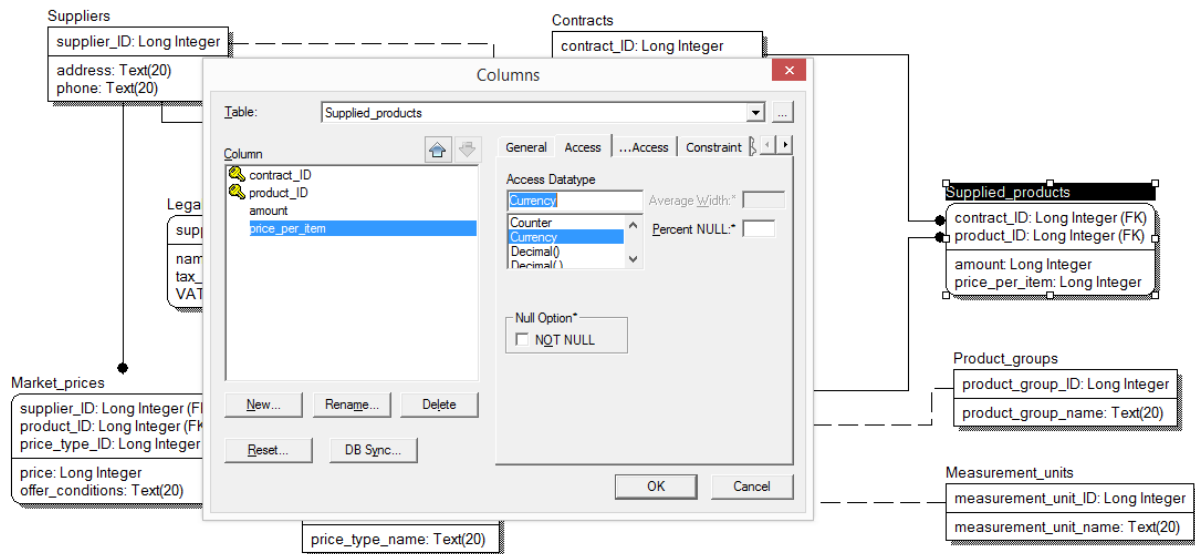

Figure 1
- 2) Select “price_per_item” field and select data type “Currency” on the “Access” tab (figure 1);